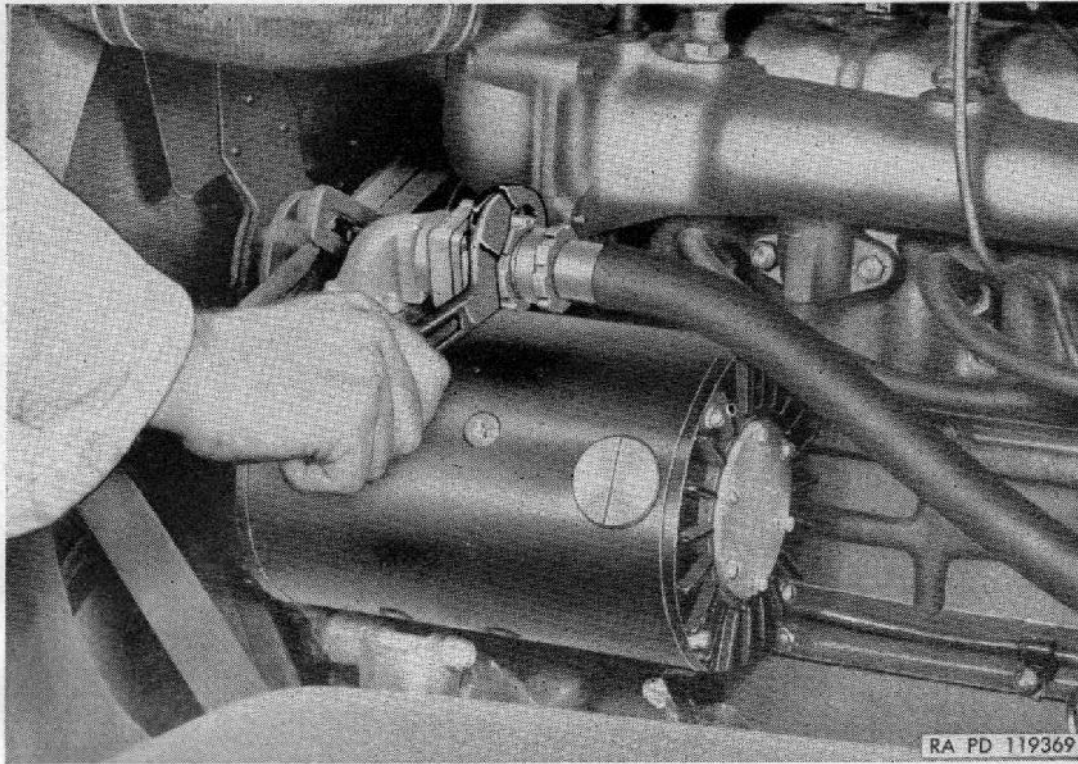

Figure 83. Disconnecting generator harness using wrench 41-W-3249-900.
b. REMOVAL. Loosen nut on generator-to-regulator harness at generator with wrench 41-W-3249-900 (fig. 83) and pull cable from generator. Remove two mounting bracket bolt nuts. Remove generator-to-adjusting-arm cap screw and move generator toward engine as far as it will go. Remove drive belts from generator pulley. Remove two mounting bracket bolts and remove generator.
d. **POLARIZATION**. When a new or rebuilt generator or regulator has been installed, or generator-to-regulator harness has been disconnected for any reason, generator must be polarized after unit is installed and *before engine is started*. Disconnect generator-to-regulator harness at generator (fig. 83). Disconnect chassis wiring harness at regulator (leave generator-to-regulator harness connected to regulator). Use a jumper wire to *momentarily* connect field terminal "B" at generator and battery terminal "A" at regulator (fig. 136). Remove jumper wire. Connect chassis wiring harness at regulator and generator-to-regulator harness at generator and tighten with wrench 41-W-3249-900 (fig. 83).